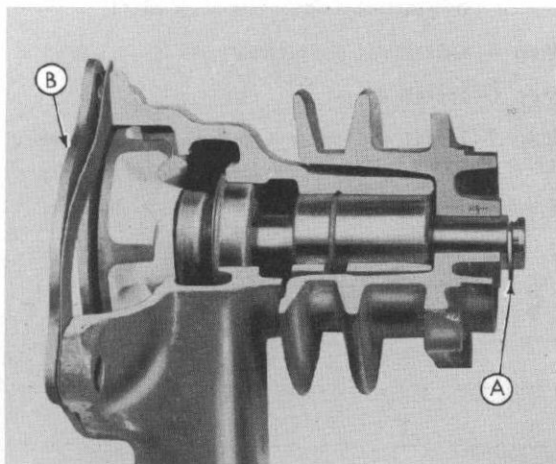

Fig. 2
- Step 1—Remove the snap ring (A-Figure 2).
- Step 2—Remove the rear cover plate (B-Figure 2).